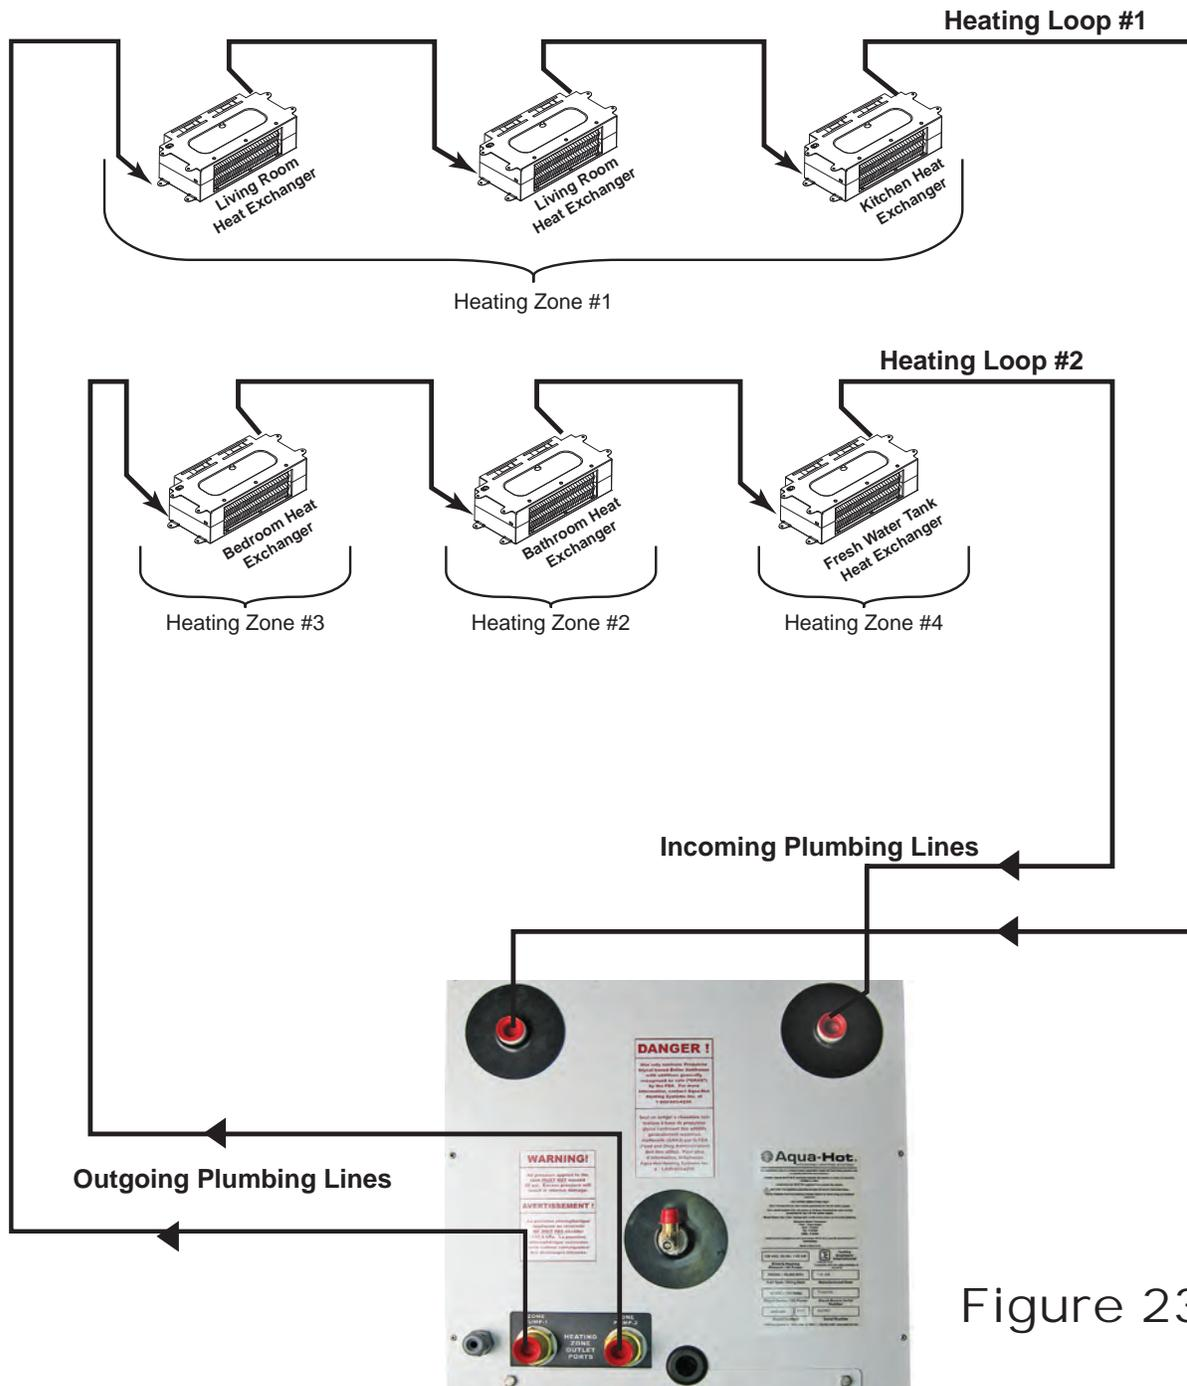

Figure 23
4. Wire all heat exchangers in a zone in-series. Reference Figure 23 and Appendix A.
The kitchen and living room heat exchangers (typically three) must be plumbed together **in-series** on “Heating Loop 1.” Reference Figures 23 and 24.
The fresh water tank, bedroom, and bathroom heat exchangers (typically 3) must be plumbed together **in-series** on “Heating Loop 2.” Reference Figures 23 and 24.
3. Connect and clamp the outlet line from the Aqua-Hot to the lowest port on the closest heat exchanger for both heating loops. Reference Figures 24 and 26. Then, connect each additional heat exchanger in the same arrangement (low to high). Reference Figure 23.
5. Connect and tighten all interior plumbing lines, outlet and inlet, to the Aqua-Hot's appropriate heating loop ports. Reference Figures 23 and 26.